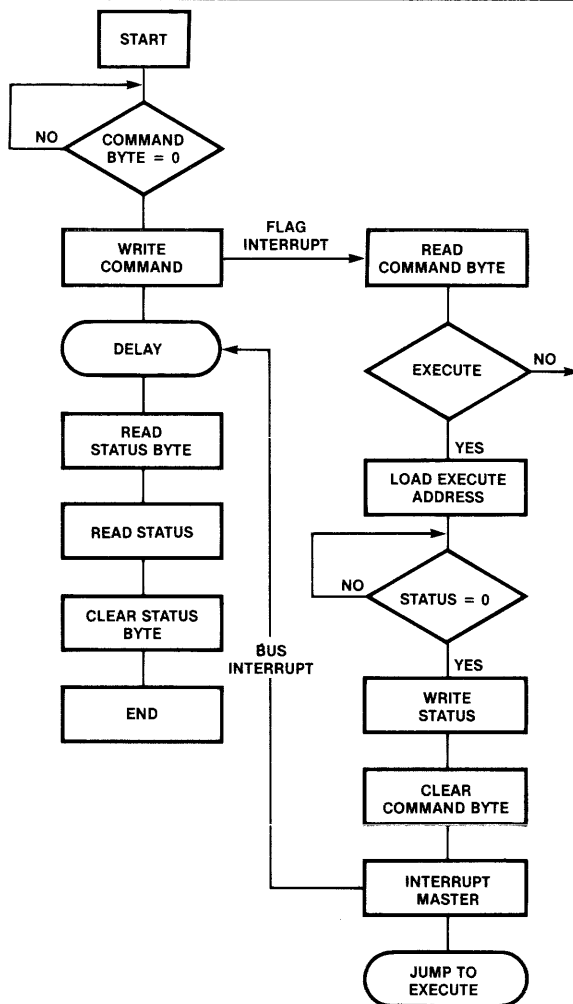

Figure 3-3. Communications Program Flow Chart
**3-7. COMMUNICATIONS PROGRAM SEQUENCE.** The following discussion will explain the events necessary to execute a command sequence. The discussion will point out the steps that must be accomplished by both the system CPU, and by the on-board CPU. Figure 3-3 is a flow chart of this sequence.